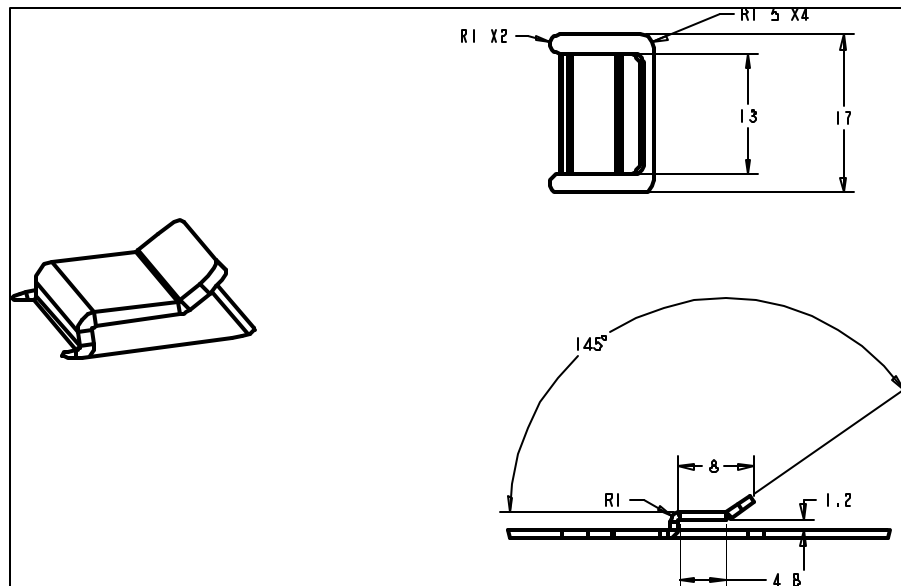

Figure 12. Suggested Mounting Tab (chassis feature)
- EITHER a mounting bracket to interface with the forward mounting hole on the power supply OR a mounting tab as shown in Figure 12 to interface with the mounting slot on the bottom of the power supply